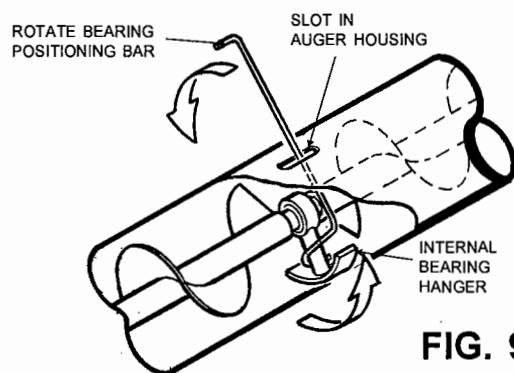

FIG. 9A
- A. Insert the double bended end of bearing positioning bar into slot and hook the internal bearing hanger stem. Rotate the bearing upward as much as possible. See Fig. 9A on page 19.